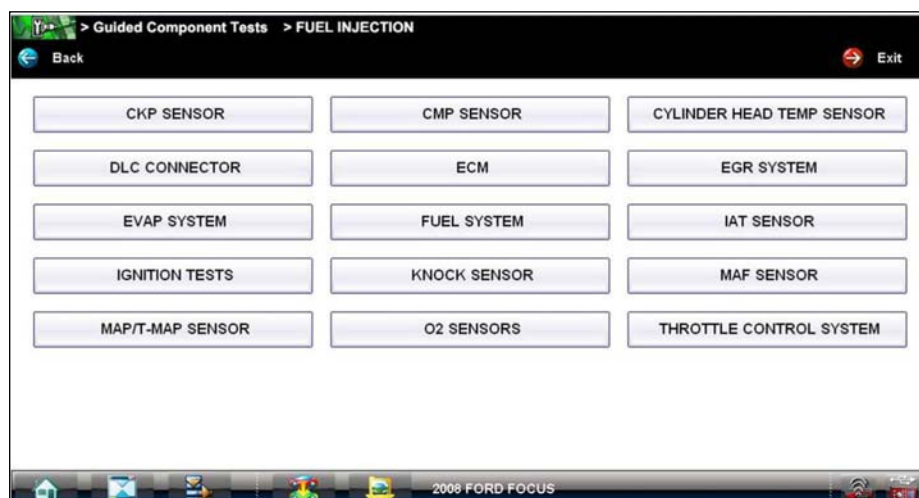

Figure 7-5 Sample available component tests list
8. Select **FUEL INJECTION** and a fuel injection component test menu displays (Figure 7-5).